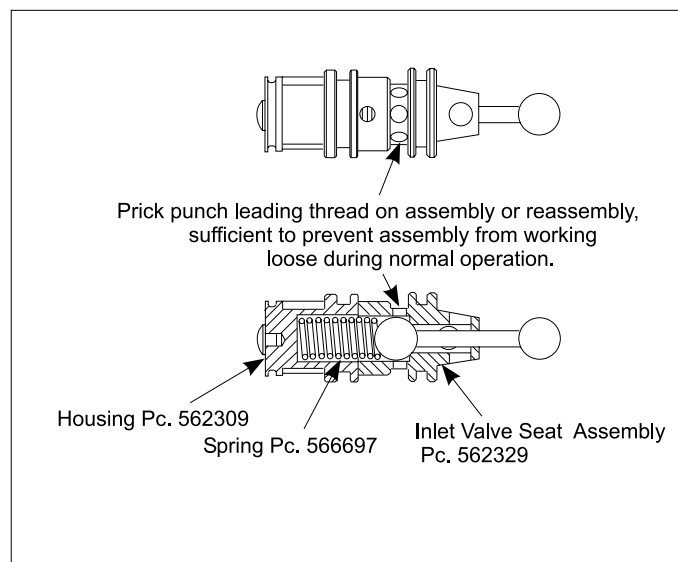

Figure 8 - Inlet and Exhaust Valve Unit - ASSEMBLY
follows: (Refer to Figure 8)
12.3.2 Assemble the inlet and exhaust valve unit as follows: (Refer to Figure 8).